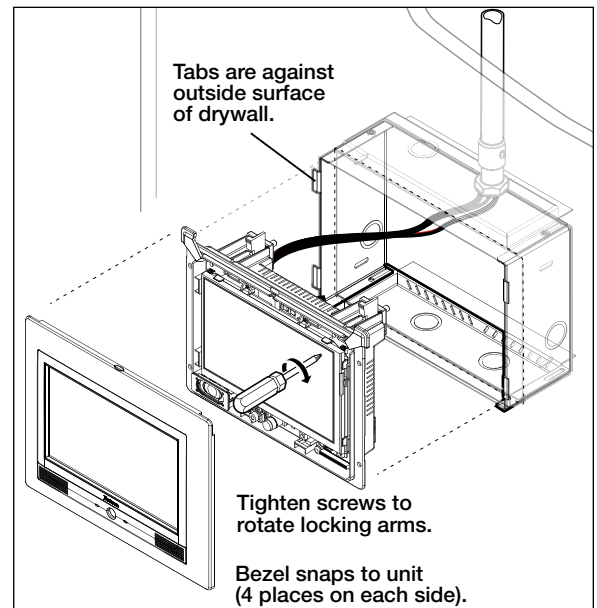

Figure 4.
12. Finish installing the TouchLink panel as shown in figure 4 and described in "Mounting the Touchpanel" on the next page.
4. Tighten the screws on the front of the unit so that the locking arms rotate into place behind the top and bottom plates of the back box and hold the unit in place (see figures 4 or 6).
5. Snap the faceplate into position (see figures 4 or 6).